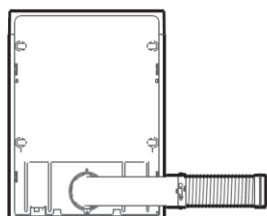

Figure 2
2. Push the end of the accessory outlet pipe with the slot into the bent pipe buckle, and turn it clockwise into the slot (Figure 2).